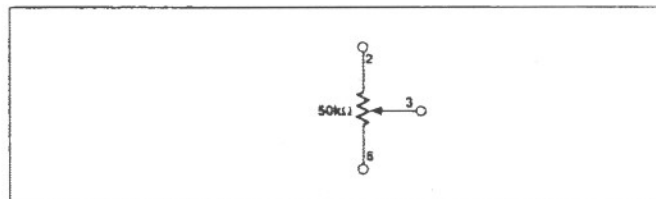

FIGURE 7
3. Adjust trimming per Figure 7 until distortion is at a minimum.